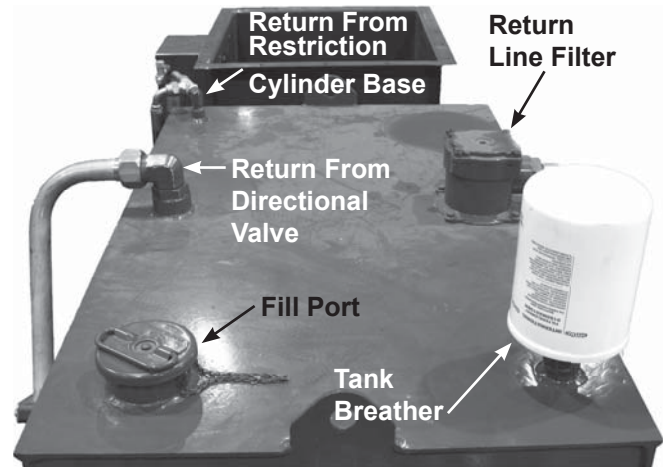

Figure 11. Fill Port and Breather Cap
All new oil put into the system is added through a "Fill Port" (see Figure 11). To get from the fill port into the system, the oil must pass through the Fill Screen. This degree of filtration helps to reduce component wear within the system, resulting in improved system life.
The oil tank breather cap should be changed every six (6) months (see Figure 11).